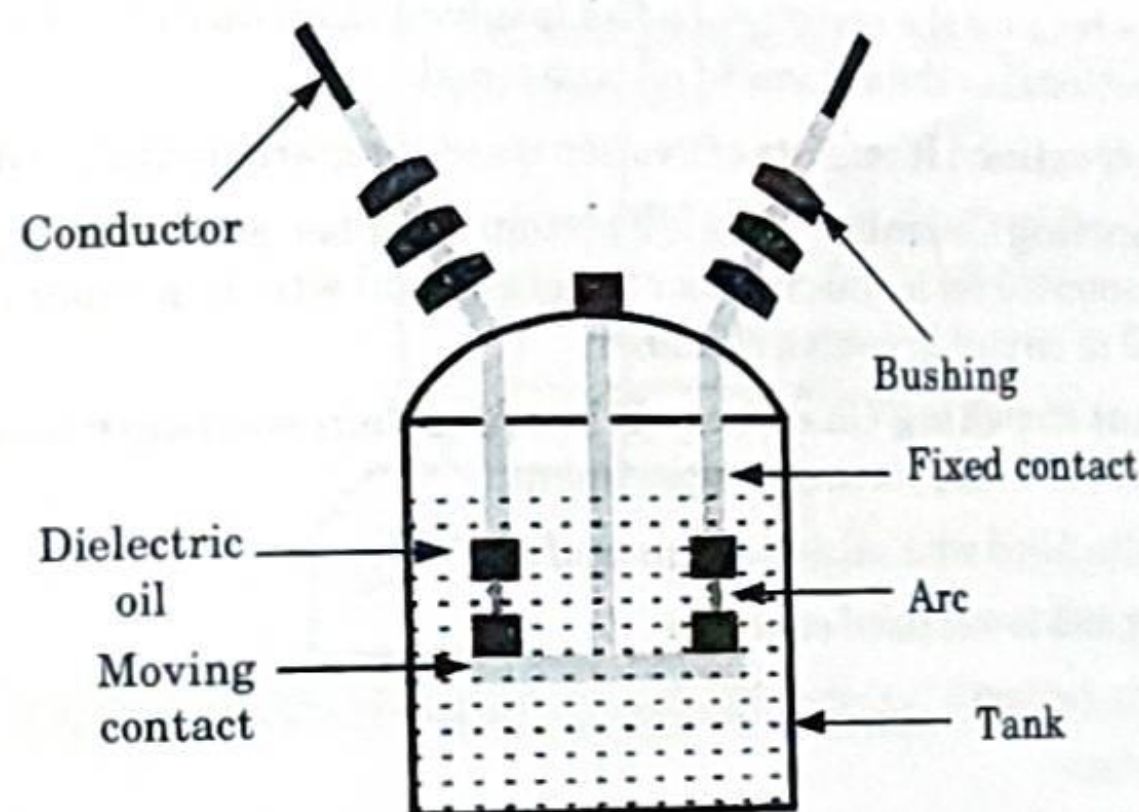

Fig. 4.23.1. Bulk oil circuit breaker with arc control device.
- Fig. 4.23.1 illustrates the tank type bulk oil circuit breaker, in open positions with the arc not yet extinguished.